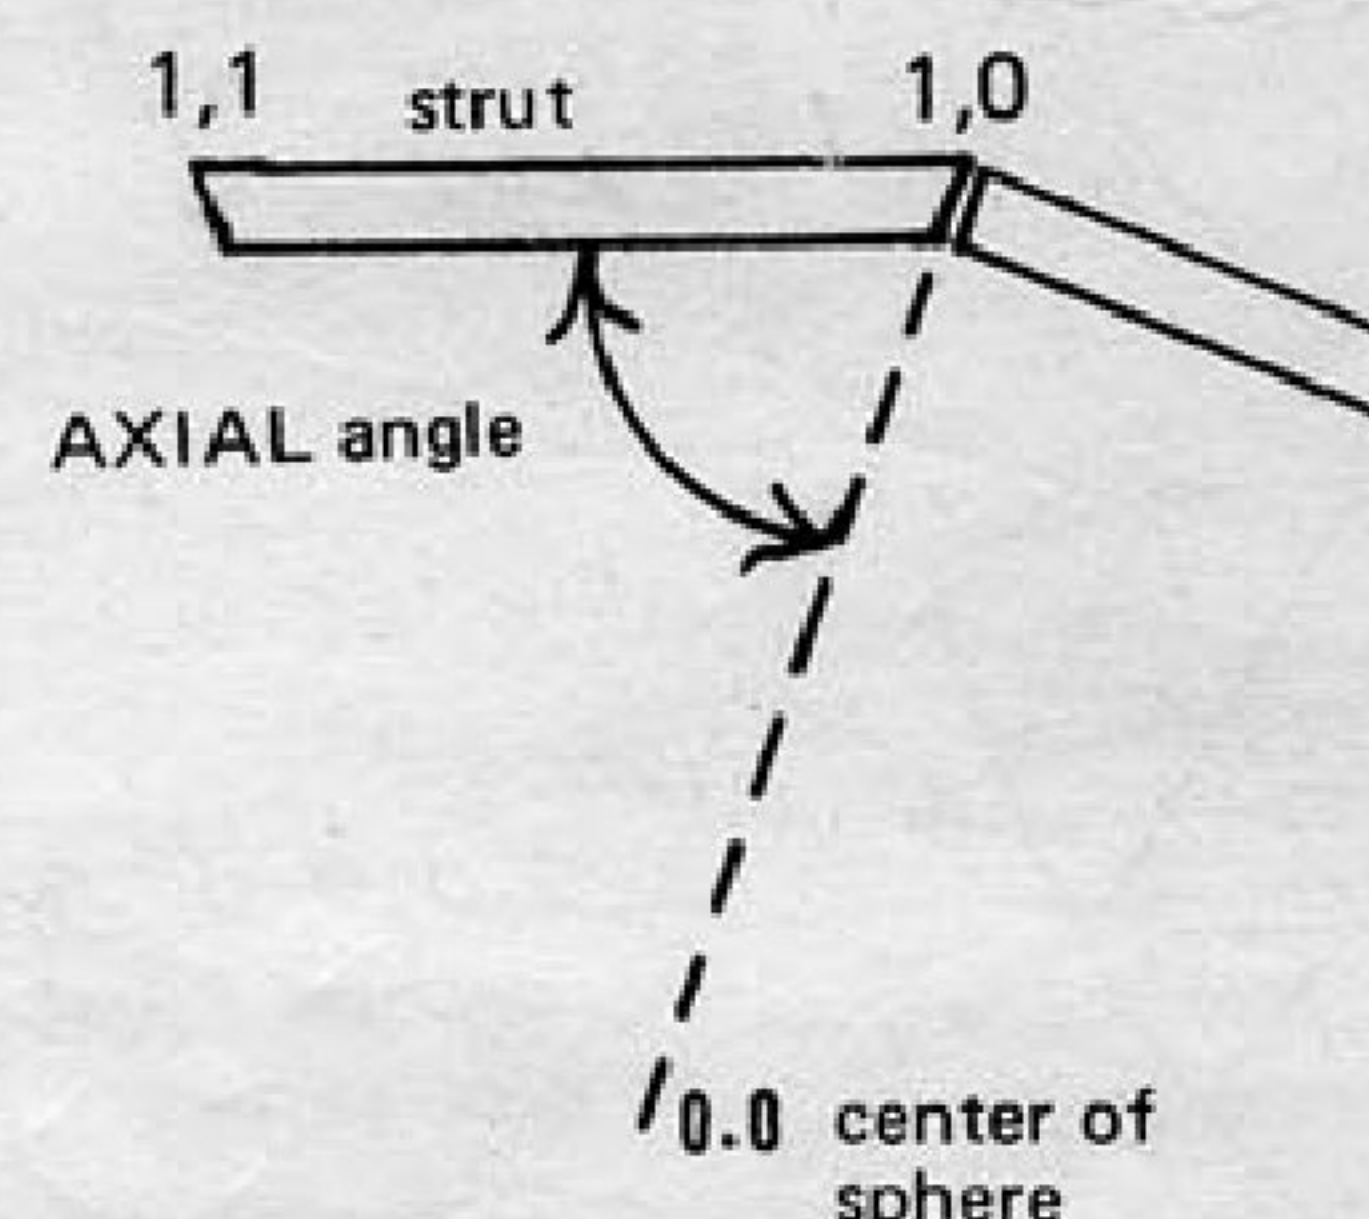

Fig. 2
- **AXIAL** 0,0 1,0 1,1 refers to the angle between a line drawn from the center of the sphere (0,0) and vertex 1,0, and the strut 1,0 1,1 (Fig. 2). It is the angle that a strut meets its hub from the side view. Note that it is *not* the entire included angle under a hub, but only to the line from the hub to the sphere center. The value is DEGREES.  $90^\circ$  minus the axial angle equals angle you cut or bend struts.